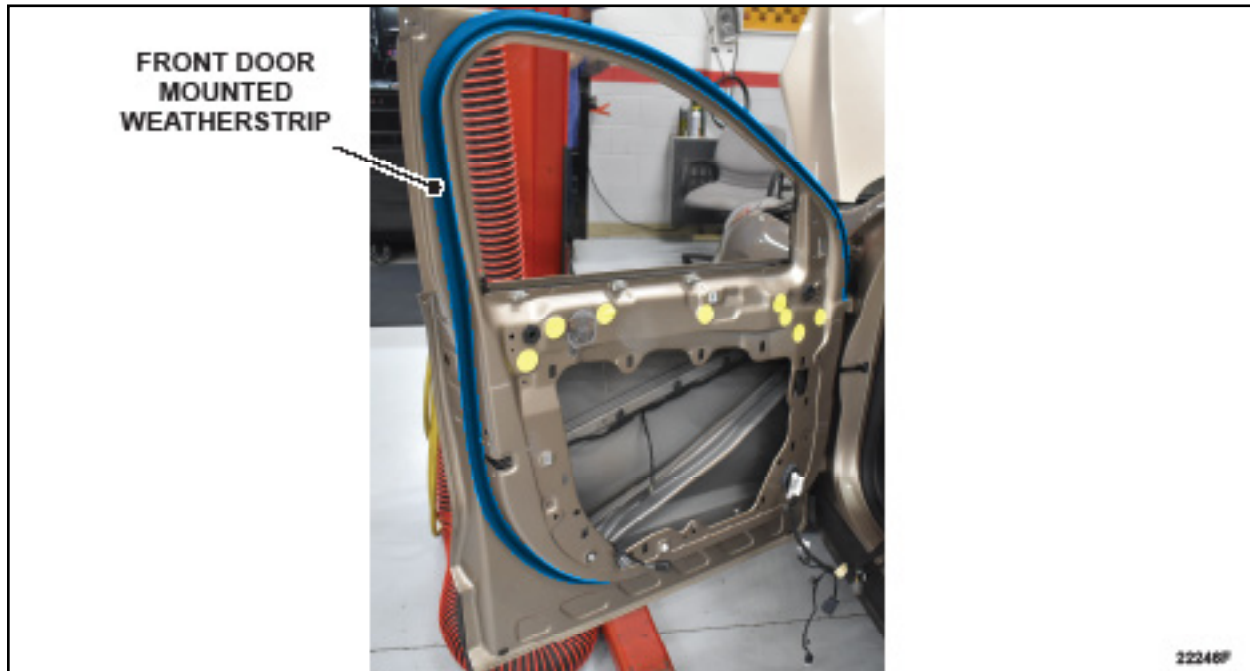

FIGURE 1
6. Remove the front door mounted weatherstrip. See Figure 1.